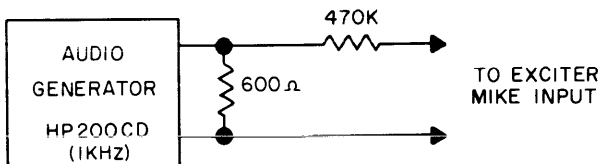
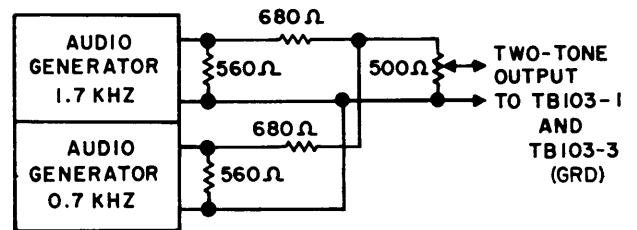

Figure 5-4. Audio and AM Amplifier Test Setup
Figure 5-5. Sideband Generator Z105 Test Setup
- (2) Using an oscilloscope, measure 1.666 MHz input at J103-15. Input level shall be 0.3 volt peak-to-peak.
- (3) Connect oscilloscope probe to collector of transistor Q1 and adjust transformer T1 for maximum output (approximately 0.5 volt peak-to-peak).
- (4) Set the following front panel controls to minimum levels: RF OUTPUT, USB and LSB, MIKE GAIN and VOX GAIN.
- (5) Set MODE switch to USB position.
- (6) Set EXCITER switch to ON.
- (7) Set CARR SUPPR switch to variable, and carrier suppression control to minimum (fully counterclockwise).
- (8) Connect oscilloscope probe to cathode of diode CR1 (junction of CR1 and resistor R10). Adjust transformer T2 for maximum output.
- (9) Adjust potentiometer R6 for minimum 1.1.666 MHz signal. Repeat steps 8 and 9 until maximum tuning is obtained.
- (10) Connect oscilloscope on hot side of resistor R23 and adjust T3 for maximum output.
- (11) Connect oscilloscope to J103-A and adjust transformers T2 through T4 for maximum output. Output shall be approximately 0.7 volt peak-to-peak with a 250 kHz input of approximately 11 mv rms.
f. UPPER SIDEBAND GENERATOR Z105. (See figures 5-4 and 5-5.) Align upper sideband generator Z105 as follows:
- (1) Connect sideband generator Z105 into an extender cord.
- (2) Connect audio generator to Exciter MIKE input as shown in figure 5-4.
- (3) Adjust audio generator to a 1 kHz, 1.4 mv rms, measured at J105-D.
- (4) Connect meter to J105-A and adjust potentiometer R8 for 50 mv rms. Adjust USB meter GAIN control to obtain an indication of 1.0 on MONITOR meter.
- (5) Connect two-tone Audio generator (1.7 kHz and 0.7 kHz) to Exciter terminal board TB103 as shown in figure 5-5. Connect jumper between TB103-3 (ground) and TB103-4.
- (6) Adjust audio generator tone levels to 0.078 volt.
- (7) Set USB GAIN control to maximum counterclockwise position. MONITOR meter shall indicate 1 minimum.
- (8) Connect meter to J105-15 (250 kHz input). Input shall be 0.6 volt rms.
- (9) Set EXCITER switch to ON. Turn AGC potentiometer R56 fully clockwise.
- (10) Connect meter to base of transistor Q11 (R26) and adjust transformer T2 for maximum output.
h. AM AMPLIFIER Z108. (See figure 5-4.) Align AM amplifier Z108 as follows:
(1) Connect oscilloscope between J108-L and ground. Oscilloscope shall indicate 250 kHz signal 1.5 volts peak-to-peak.
(2) Connect audio generator to Exciter MIKE input as shown in figure 5-4.
(3) Adjust audio generator input for 1 kHz at 40 mv rms.
(4) Set MODE switch to either USB or LSB; set METER switch to the corresponding position (USB or LSB).
(5) Using Exciter MIKE GAIN control, set mike gain for 2.8 mv at J108-15; MONITOR meter should indicate 0.7.
(6) Connect oscilloscope to hot side of R13 and adjust transformer T1 for maximum output.
(7) Connect Ballantine meter between J108-E and ground; adjust potentiometer R15 for 6.2 mv rms.
k. **RF OUTPUT Z115.** (See figure 5-5.) Align the rf output as follows: